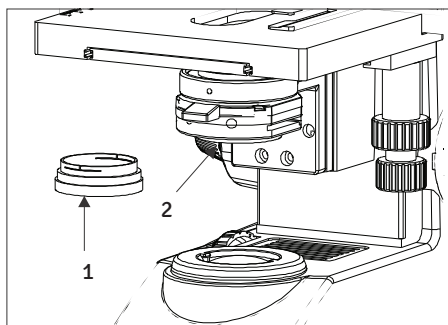

Fig. 9
2. Place the polarizer shown as (1) in figure. 9 on the illumination assembly shown as (2).